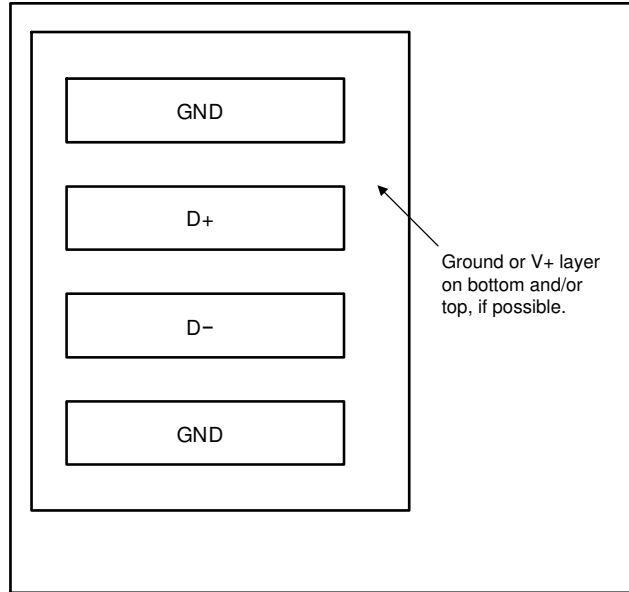

Figure 10-3. Example Signal Traces
- Route the D+ and D– traces next to each other and shield the traces from adjacent signals using ground guard traces, as shown in Figure 10-3. If a multilayer PCB is used, bury these traces between ground or VDD planes to shield the planes from extrinsic noise sources. TI recommends using 5mm (0.127mm) PCB traces.